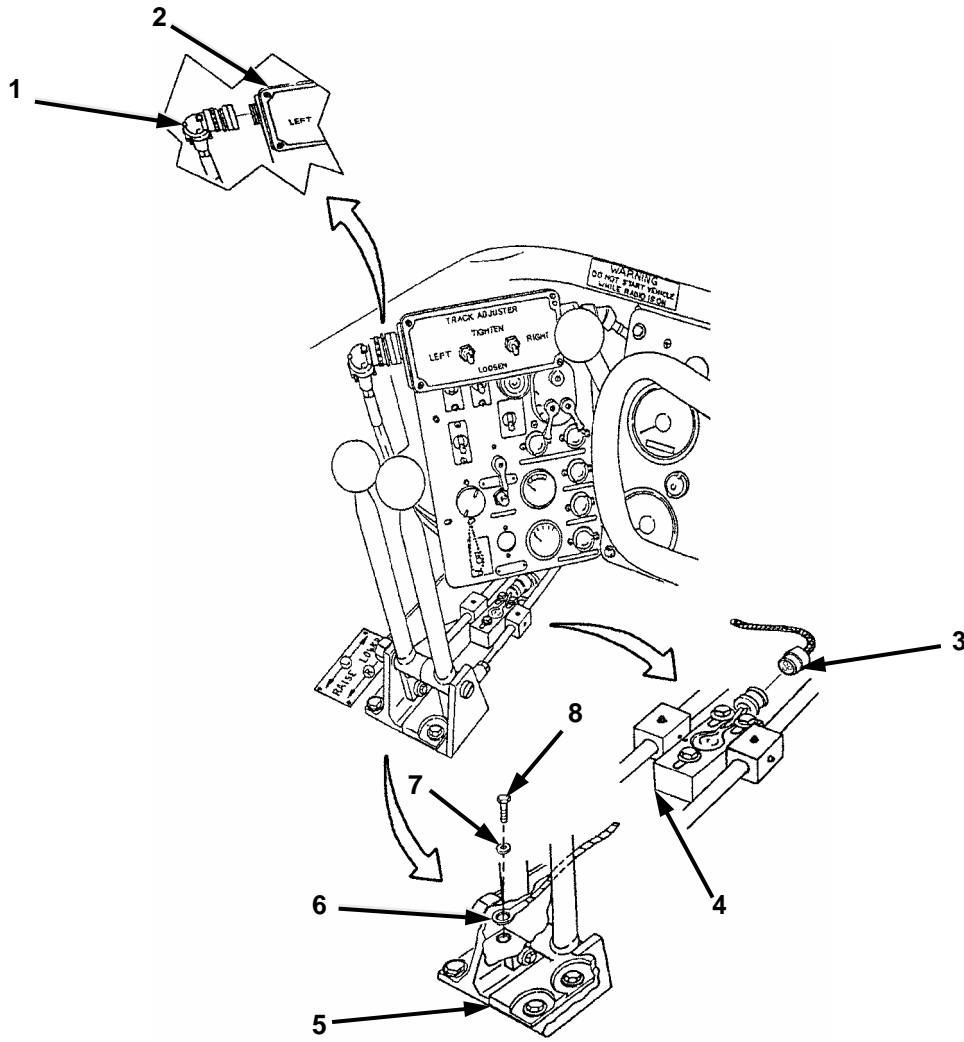

Figure 2-3. Track Control Wiring Harness.
- c. Remove SPRUNG/UNSPRUNG switch tap wiring harness connectors (6 and 5) from SPRUNG/UNSPRUNG switch connector (7) and wiring harness connector (8).
- d. Remove SPRUNG/UNSPRUNG switch tap wiring harness (3), by routing through hull (4) from driver's compartment (1) to SPRUNG/UNSPRUNG switch connector (7) and set aside for disposition per Chapter 1, Section 1-8, step c.
- e. Install wiring harness connector (8) to SPRUNG/UNSPRUNG switch connector (7).
- a. Remove track control wiring harness connector (Figure 2-3, 1) from suspension control electrical box (2).